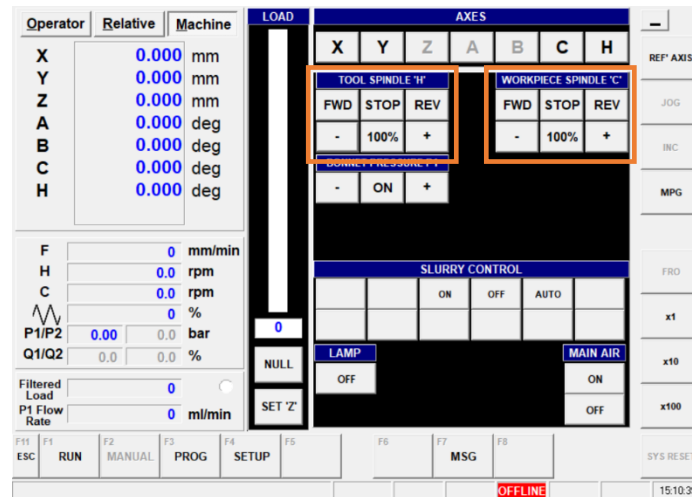

Figure 49 - GUI Manual page
The tool spindle and work piece spindle may be manually operated by selecting options from the “TOOL SPINDLE (S)” and “WORKPIECE SPINDLE (C)” section of the GUI “MANUAL” page. See (Figure 49 - GUI Manual page).